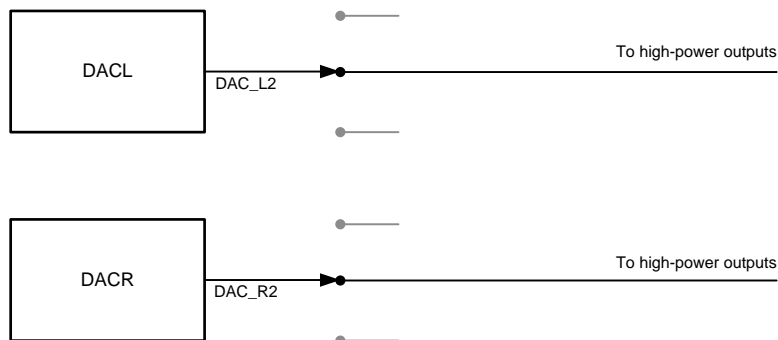

Figure 6. Headphone Path
- Figure 6 shows the headphone (or high-power) path. This path is a low-power path that routes the DAC output to the headphone output directly.